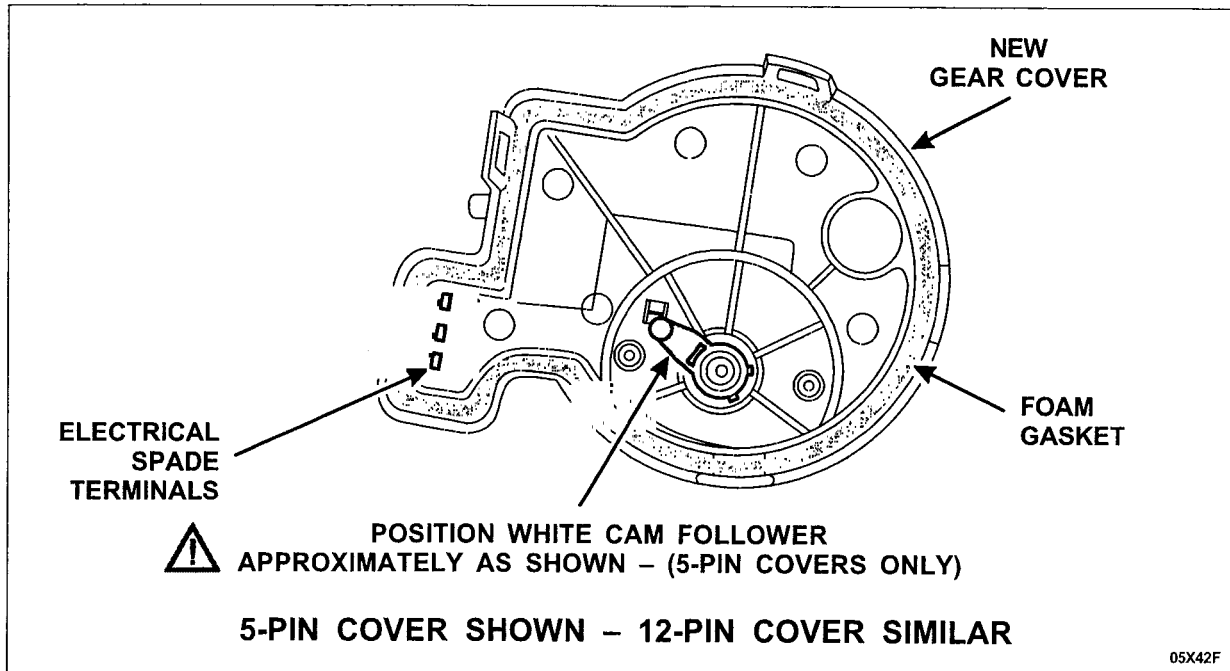

FIGURE 6
3. Verify that the three (3) electrical spade terminals are not bent. If necessary, straighten them so that they are perpendicular to the cover as illustrated in Figure 6.
4. Make sure that the foam gasket is properly seated in the *new* cover as shown in Figure 6.
Make sure that the white cam follower arm is positioned as shown in Figure 6.